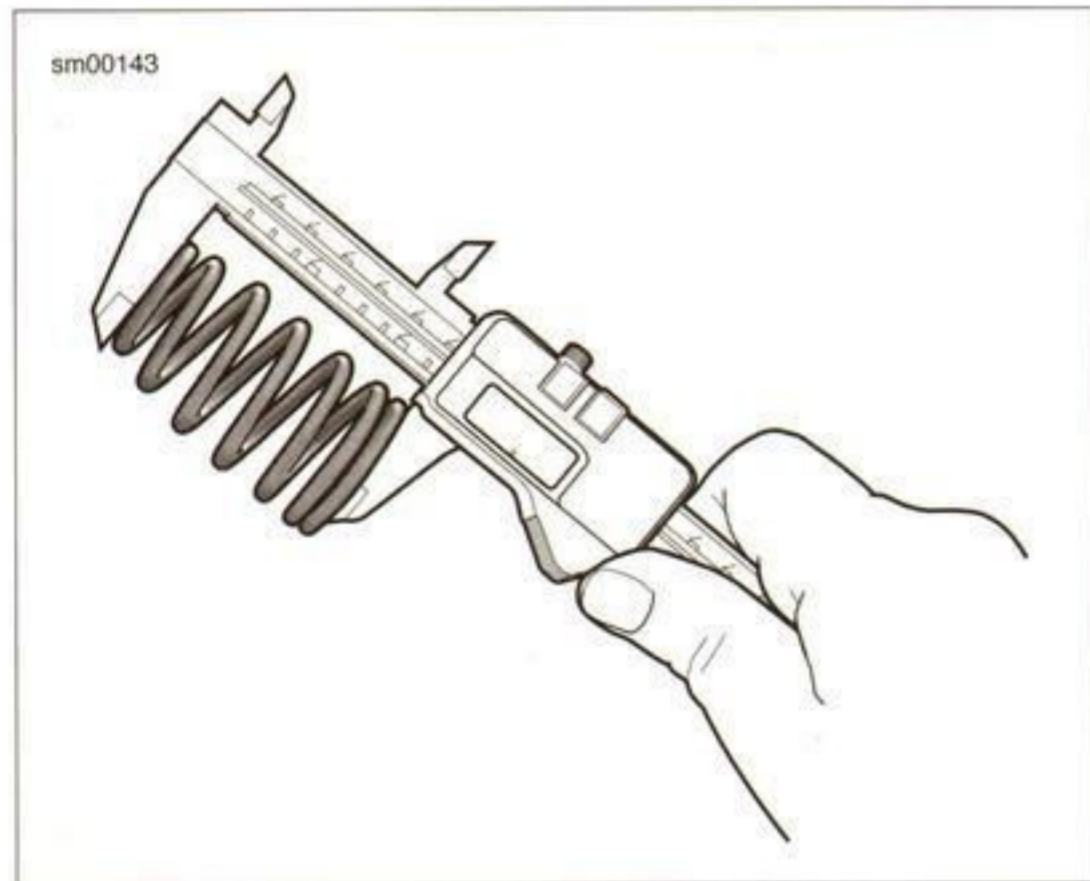

Figure 3-88. Checking Spring Free Length
2. See Figure 3-88. Measure the free length of the valve springs. If a spring length is shorter than specification, replace the spring. If necessary, replace all the valve springs in the head. Refer to Table 3-19.